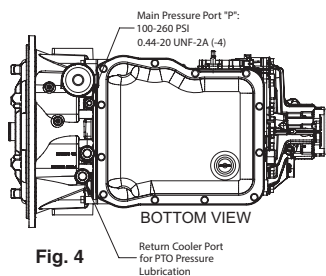

Fig. 4
6. Locate the transmission main pressure port (see figure 4). Remove the installation kit (43TK5282) components from the FA6B PTO carton. Locate the straight fitting (43T36431) and the elbow fitting (43T36445).
9. Locate the transmission PTO pressure lubrication port (see figure 4). Locate the tee fitting (sold separately – see note below) and plug one of the 1/8" NPT ports and insert the straight fitting (included with tee fitting) into the other end. Disconnect the cooling line from the cooler port and insert the tee fitting (O-Ring end first) into the transmission. Connect the cooling line to the end of the tee fitting.